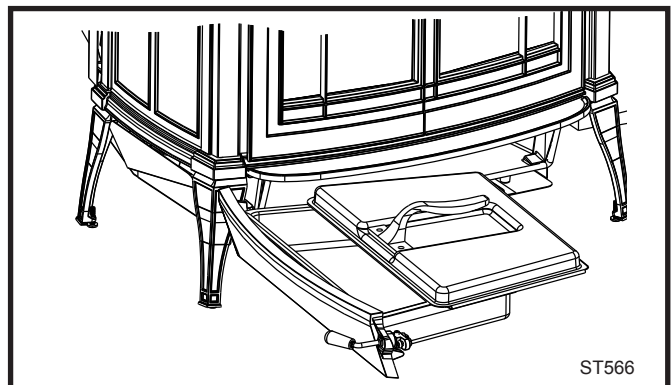

Fig. 35 Be sure the cover is securely attached before removing the ash pan.
- Slide the cover onto the pan, making sure it is securely closed. (Fig. 35)
- Return the ash pan to its original position in the stove, and close and latch the ash door. (Fig. 35)